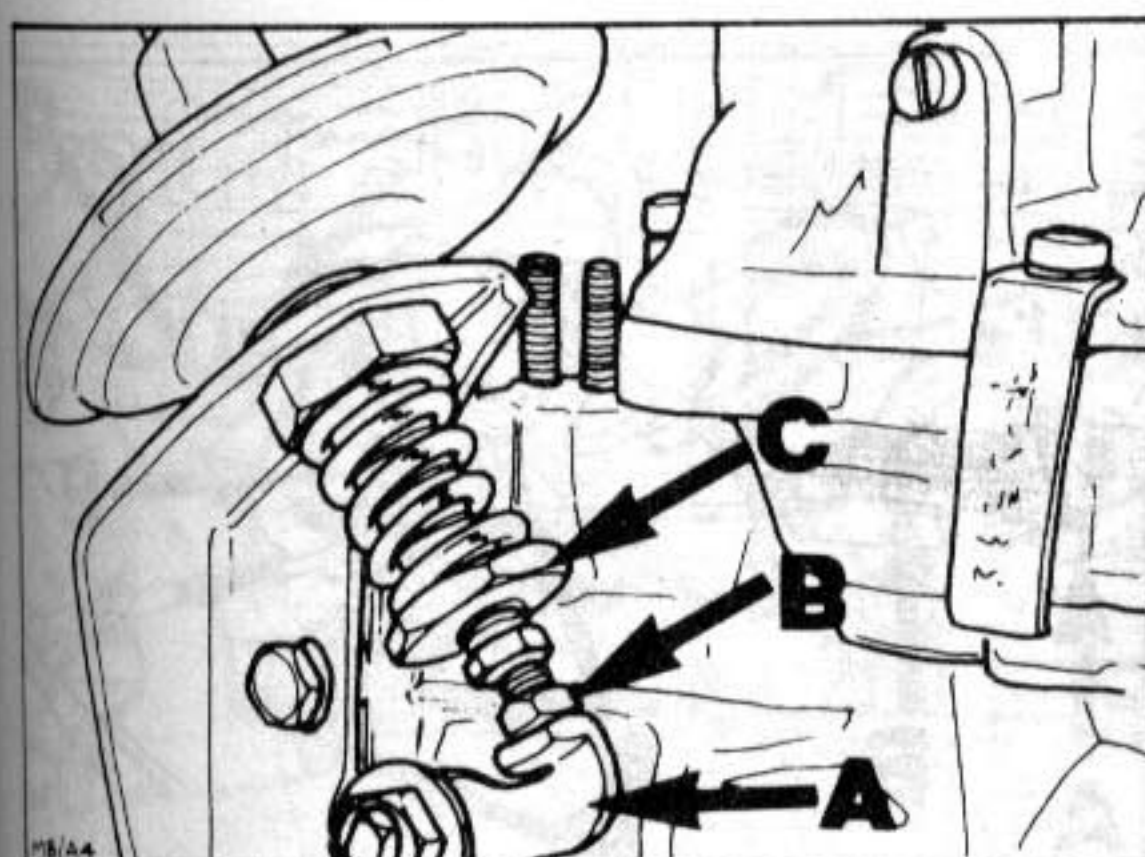

Fig. 5 Throttle damper adjustment
- d) If necessary, adjust to within these limits by turning adjusting screw (B) at end of diaphragm rod (Fig. 5).
- f) Check that a clearance of approximately 0,1 mm exists between head of adjusting screw (B) and actuating lever (A) on throttle shaft.
- g) If necessary, adjust clearance by means of large adjusting nut (C) at lower end of compression spring.
- k) If necessary, adjust idle speed by means of large adjusting nut (C) at compression spring (Fig. 5).